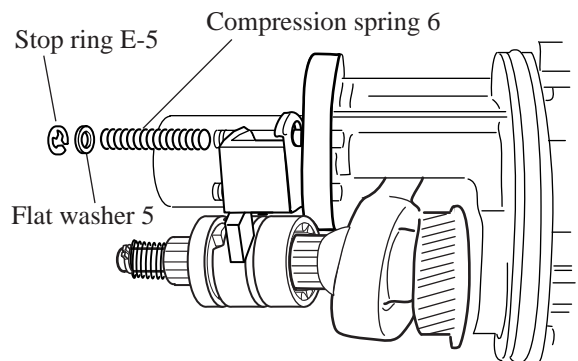

Fig. 12G
9. Assemble compression spring 6 and flat washer 5 to the pin of inner housing. And fix them with stop ring E-5 as illustrated in fig. 12G.